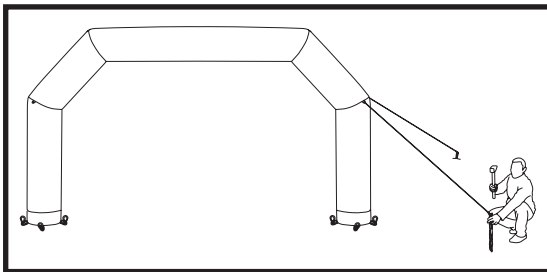

Fig. 6
9. Clip the second end of the line to the torsion anchor and hammer it into the ground. Stretch the rope. Repeat for each rope (Fig. 6).